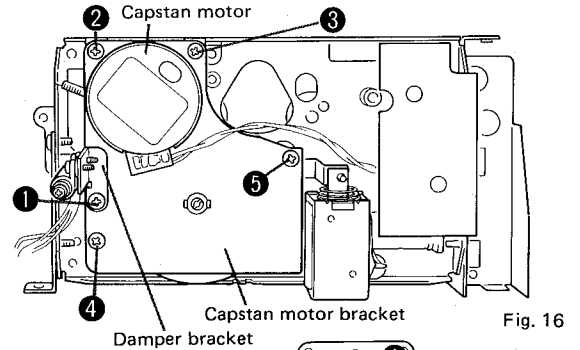

Fig. 16
⑥ CAPSTAN MOTOR, BELT AND FLYWHEEL REPLACEMENT
1. Remove the screw ① in Fig. 16 and then remove the damper bracket.
2. Remove the screws ② to ⑤ in Fig. 16 and remove the capstan motor bracket. At this time the main belt should have been removed from the capstan motor pulley.